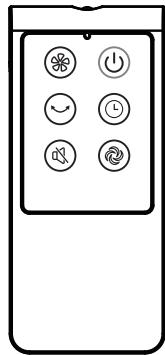

Fig.10
I. Remote Controller (Fig.10)
Insert the batteries, and make sure that the batteries are placed as shown in Fig.10.